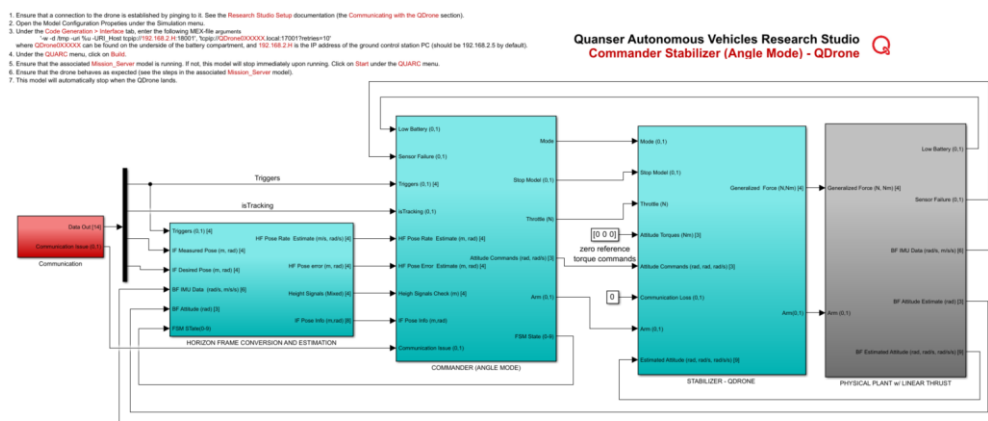

Figure 2. Commander Stabilizer Model
3. From the same folder containing this file, open the folder QDrone Hover Test, and open Commander\_Stabilizer\_QDrone.mdl (Figure 2).